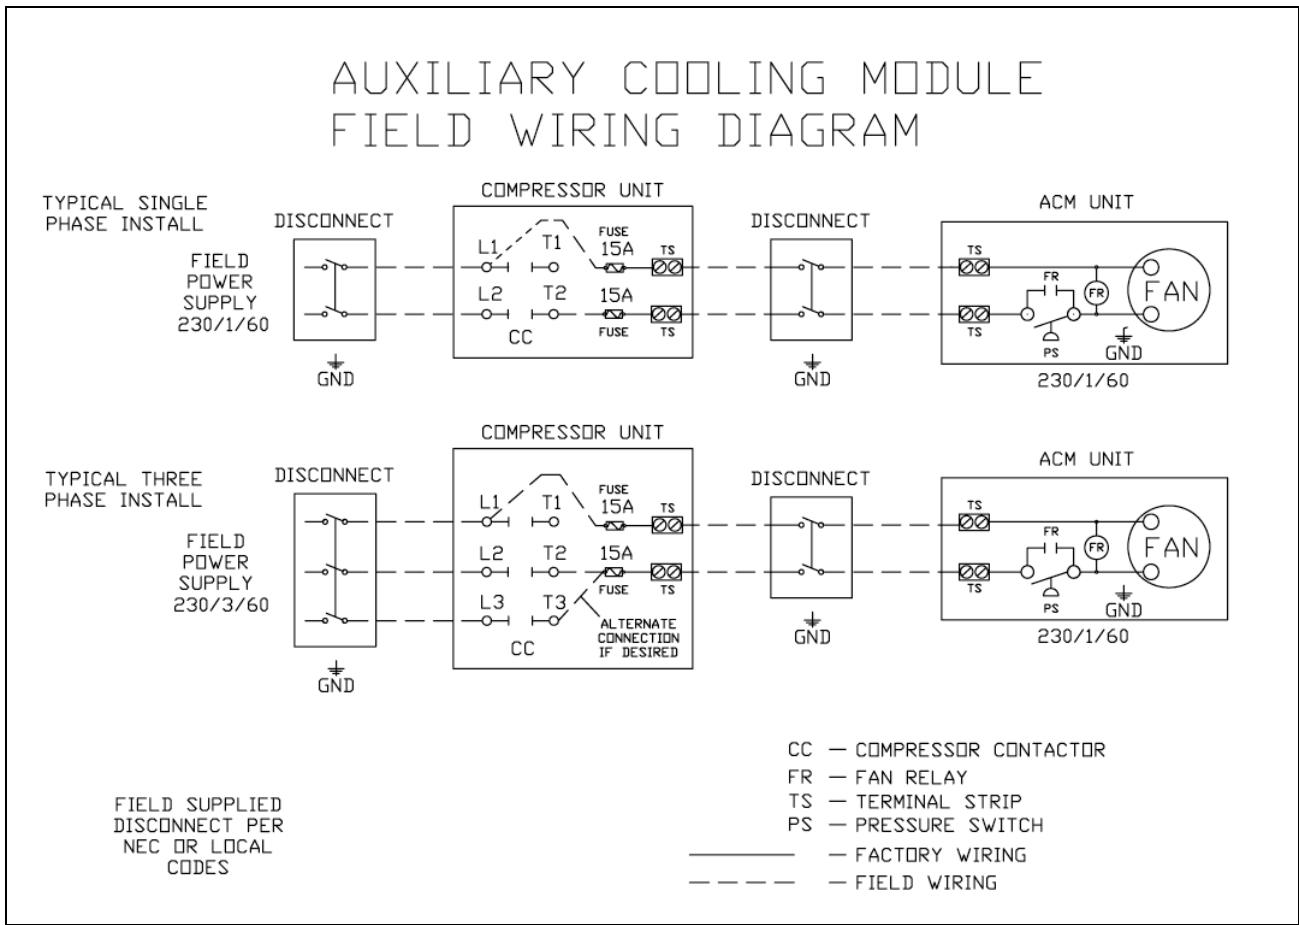

Figure 8. Auxiliary Cooling Module Field Wiring
9. Run high voltage wiring from the two-pole terminal strip in the electrical box out of the grommeted end hole of the electrical box and through the conduit connection of the compressor cabinet, to the Disconnect shown in Figure 8, and from the Disconnect to the Auxiliary Cooling Module, using flexible conduit.
Figure 8 illustrates the electrical connections that are to be made at the ACM electric box with the two high voltage leads from the compressor unit.